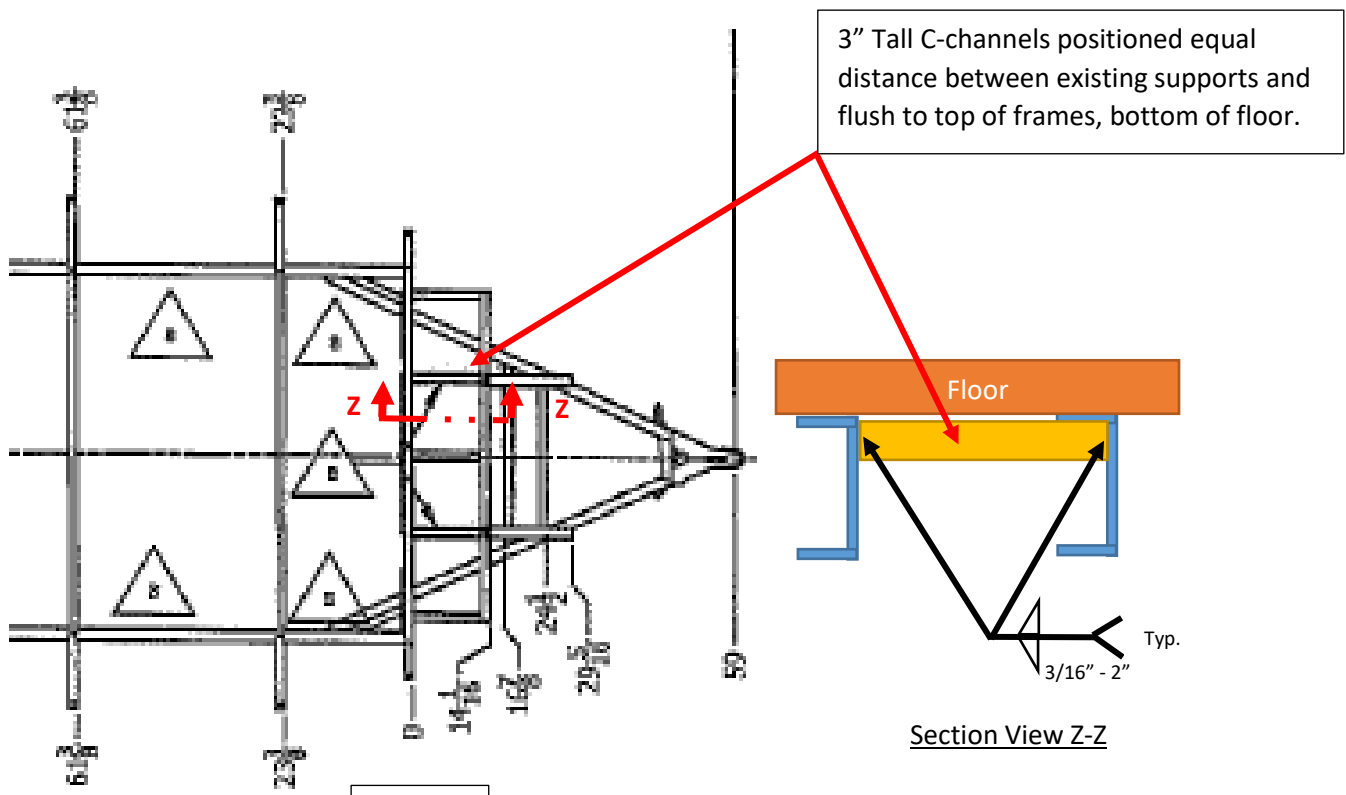

Figure 3
Step 6: Weld the two 3" c-channels into position as shown in figure 3 and section View Z-Z shown below.